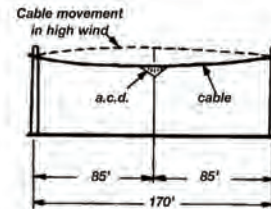
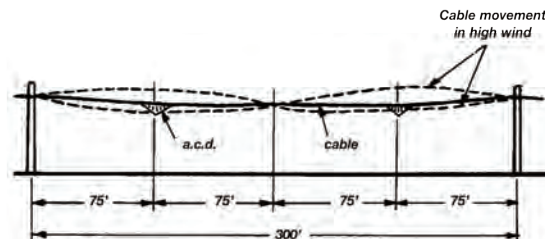

Fig. 1 – Level ground – 125'-170' spans
Fig. 2 – Level ground – 170'-300' spans
**Level Ground** – Locate at span’s center for 125-170 ft. spans (Fig. 1). On spans 170-300 ft., locate two ACDs, each one-fourth the total span length from either pole. (Fig. 2)